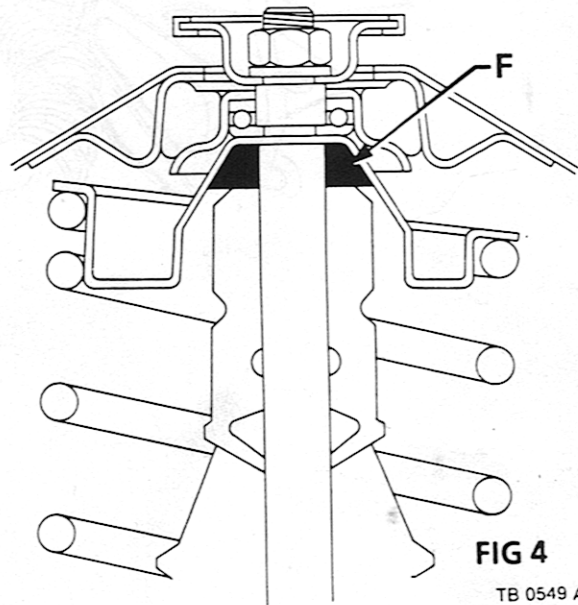

FIG 4
- 8 Fit bump stop packer 'F' to both struts as shown in fig. 4